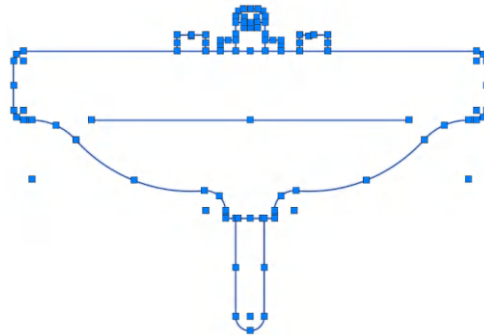

Figure 12.2: The objects for the front view selected, with grips displayed
1. Initially, you will create a regular block of the objects forming the front view on the left. With all the objects selected (as shown with all the grips displayed in *Figure 12.2*), select the **Insert** tab on the ribbon.